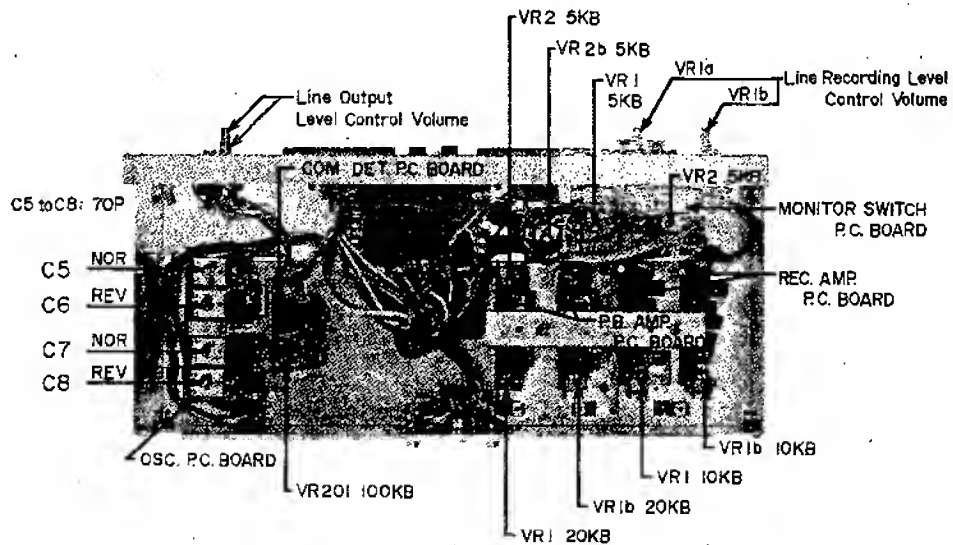

Fig. 16
(See Fig. 16)
- 2) Adjust OSC. P.C. Board semi-fixed capacitors C-5 to C-8 (70P) so that a 10 kHz signal output level is within $\pm 1/-0$ dB in relation to 1,000 Hz. (See Figs. 16 & 17)